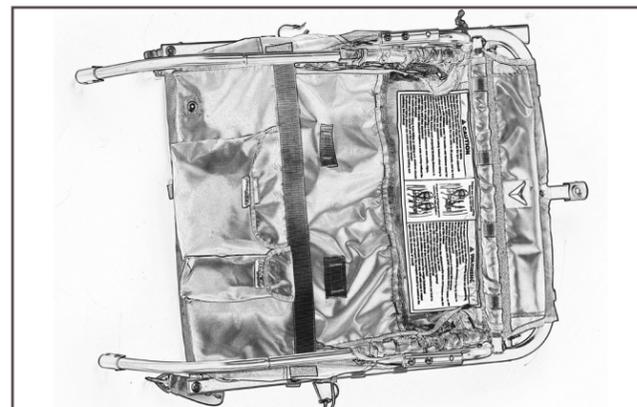

Figure 39
- c. Fold frame down until trailer is flat as shown (Fig. 39).